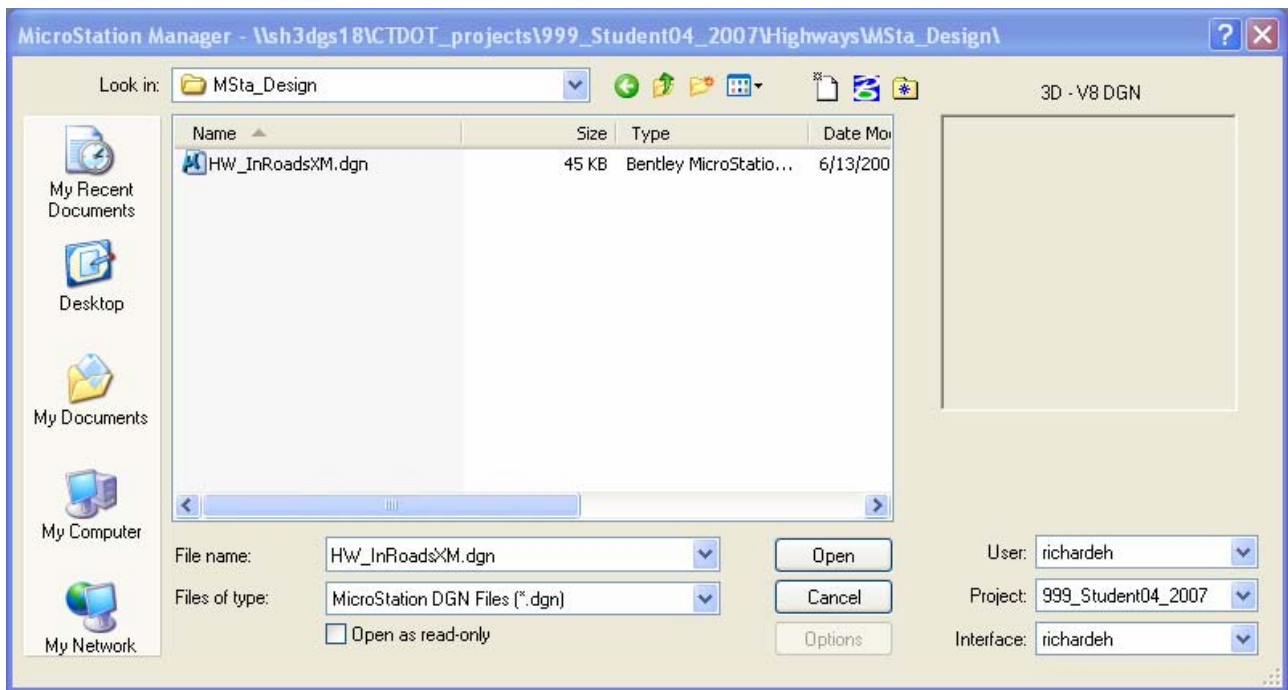

Figure 1-3 MicroStation Manager
- F. (see Figure 1-3). MicroStation XM and InRoads XM will automatically start up when the design file opens.